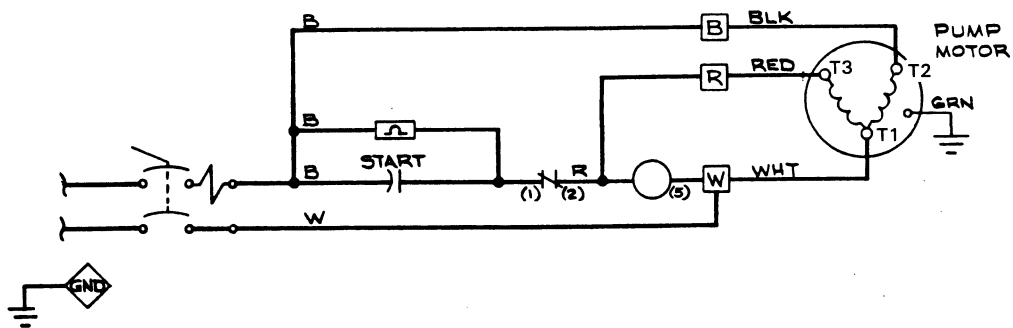
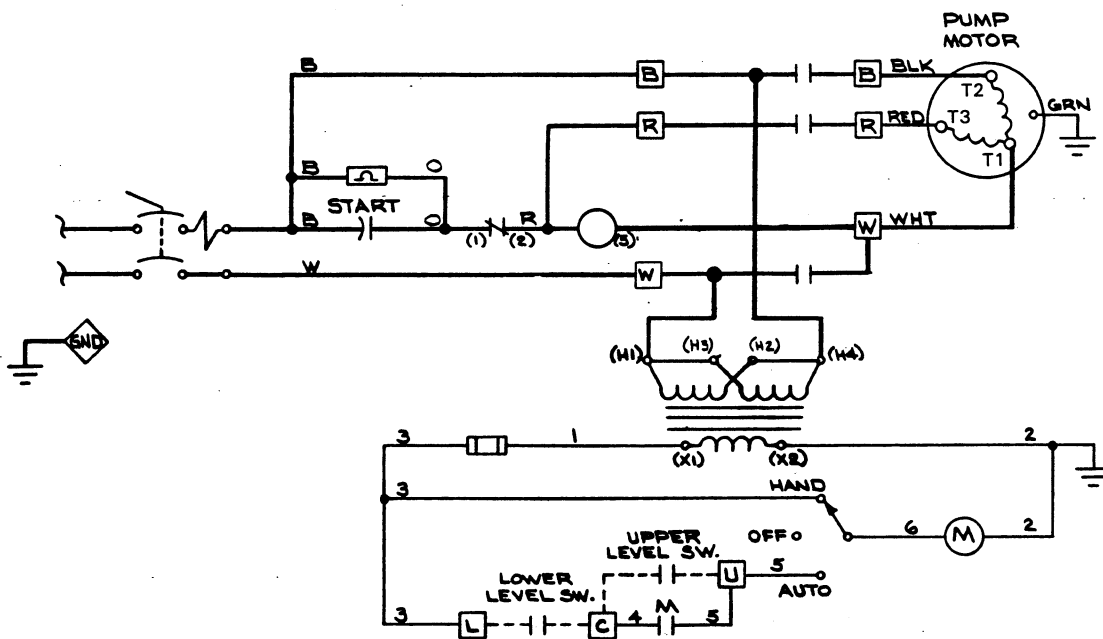
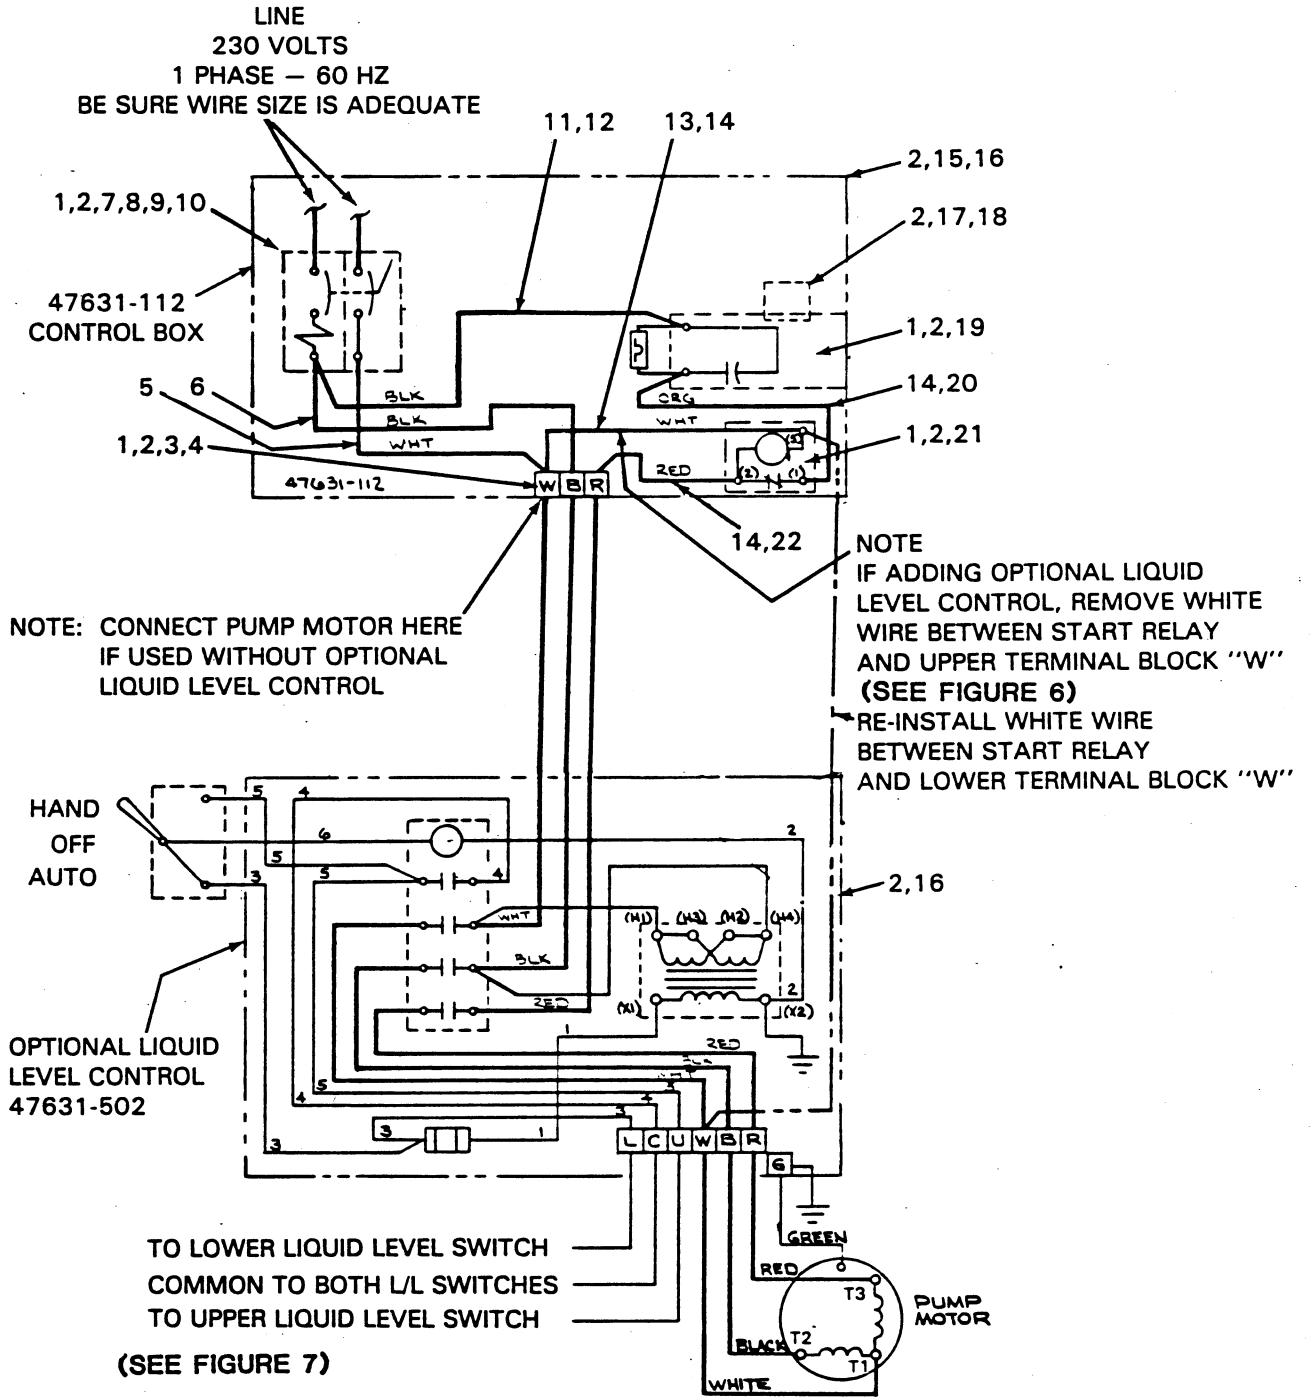

Figure 6. Elementary Wiring Diagram (Without Liquid Level Controls)
Figure 7. Elementary Wiring Diagram (With Liquid Level Controls)
Figure 8. 47631-112 Control Box Assembly - Pictorial Wiring Diagram
See Figure 8 on page B-15 for internal parts.
- a. Measure the incoming voltage across lines (1 & 2) while the pump is **operating at full capacity**. See Figure 6 on page B-14 or Figure 8 on page B-15.
Connect the pump power cable to the control box as shown in Figure 6 on page B-14 or Figure 8 on page B-15. Use conduit or cable clamps to secure the power and
If liquid level controls are to be installed, connect the motor power cables and level control power cables as shown in Figure 7 and Figure 8 on page B-15.
See Figure 8 on page B-15 for a pictorial wiring diagram and callouts of the control box assembly internal parts.